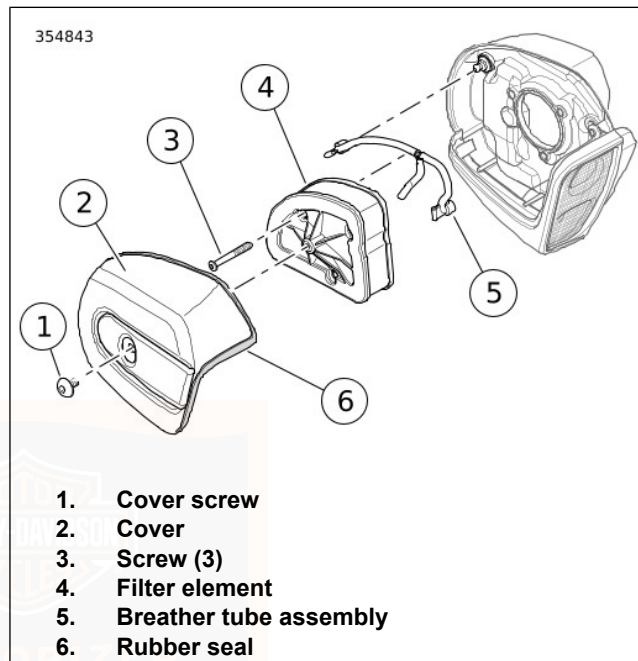

Figure 72. Air Cleaner Assembly
1. See Figure 72. Remove screw (1) and air cleaner cover (2) with rubber seal (6).
2. Remove three screws (3).
3. Remove filter element (4) pulling breather tube from hole on inboard side.
4. Remove breather tube (5) from breather bolts.
1. See Figure 72. Install breather tube (5) onto breather bolts.
2. Install filter element (4) while pushing breather tube into element.
3. Install screws (3). Tighten screws to 4.5–6.8 N·m (40–60 **in-lbs**).
4. Verify that rubber seal (6) is not damaged and is properly seated around perimeter of air cleaner cover.
5. Place air cleaner cover onto backplate. Apply a drop of LOCTITE 243 MEDIUM STRENGTH THREADLOCKER AND SEALANT (blue) to the threads of screw (1). Install screw. Tighten to 4.1–6.8 N·m (36–60 **in-lbs**).